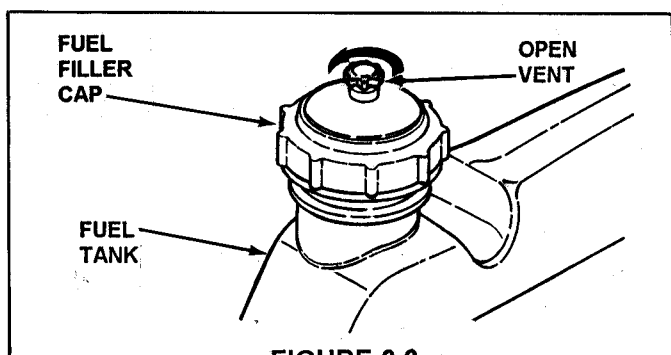

FIGURE 2.2
- 2.1.7. Add fuel to tank after pushing the Rear Engine Rider outside where fumes can dissipate. Make sure fuel filler cap is tight and vent is open after refueling. Refer to engine owner's manual for fuel specifications. See Figure 2.2.
3. Open vent on fuel filler cap by turning counterclockwise as shown in Figure 2.2 on Page 4.